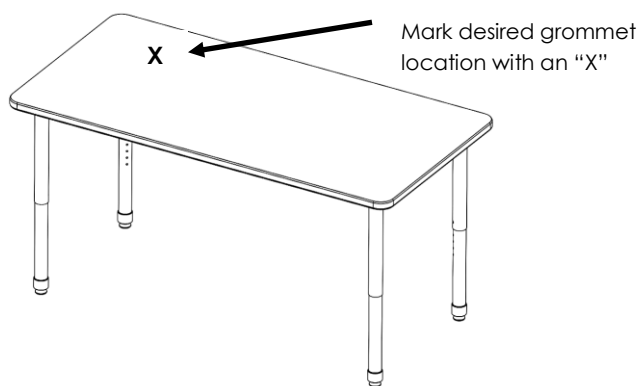

Figure 1
1. To field install the TA-GR3 grommet start with the work surface in application position, measure and mark the center of the grommet location you wish to place on the top with an "X". See Figure 1 below. All holes should be a minimum of 1.00" off the edge of work surfaces.